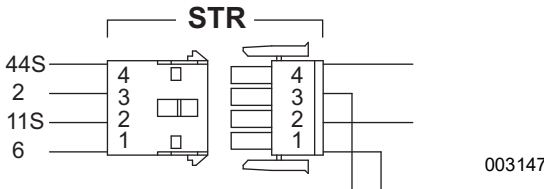

Figure 2-10. Stator Connector (STR) Pin Locations
3. If the meter indicated a resistance value of OPEN in Step 6 and a value less than 0.2 ohms in Step 8, repair or replace Wire 44S between the controller and the STR connector (see Figure 2-10).
6. See Figure 2-10. Disconnect the STR connector located in the wire harness.
1. See Figure 2-10. If the meter indicated a resistance value of OPEN in Step 5, but a resistance value consistent with the values found in the table in the front of the manual in Step 7, repair or replace Wire 2 and/or 6 between the controller and the STR (Stator) Connector. Measure Ohms between Wire 2 and 2, or Wire 6 and 6 to confirm which wire is open.